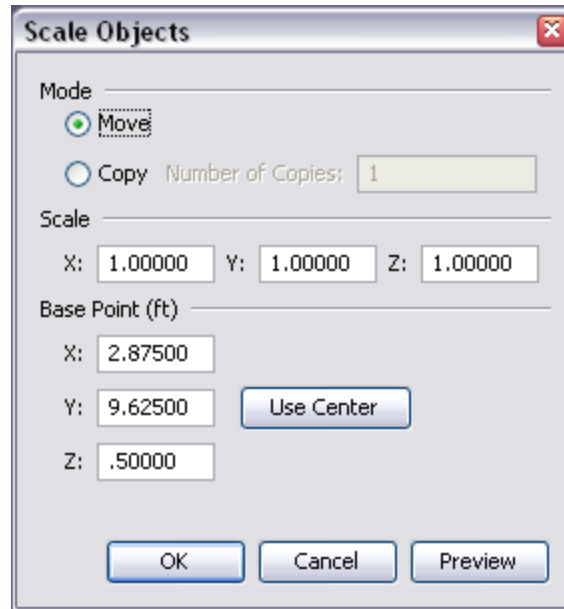

Figure 115. The scale dialog being used to scale an object
3. This will show the Scale dialog as in Figure 115.